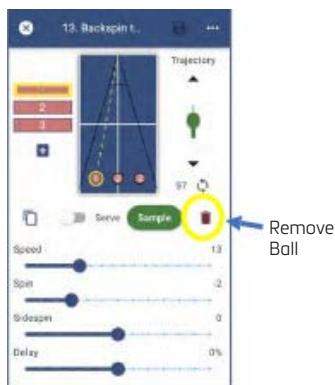

Figure 3-67
2. Select the Ball in the Drill that you wish to remove, by touching the appropriate Ball Selector. (Figure 3-67)
3. Press the Remove Ball Button Icon (Figure 3-67).